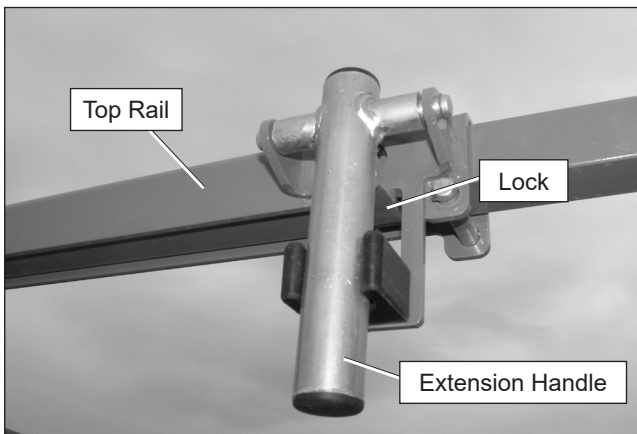

Figure 9.4 – Platform Extension Handle
2. While facing the front of the platform, grasp the platform extension handles, raise them and push the extension deck forward to extend the deck. Fully lower the handles at the mid or front position and ensure they are locked in their lowered position (refer to Figure 9.4).
2. While facing the front of the platform, grasp the platform extension handles, raise them and pull the extension deck backward to retract the deck. Fully lower the handles at the stowed position and ensure they are locked in the lowered position (refer to Figure 9.4).